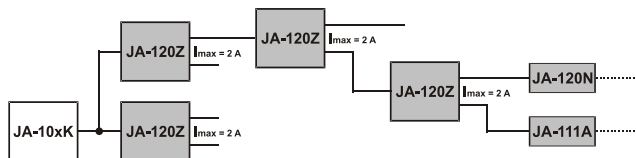

Figure 1: 1 – Boosting the BUS output current for up to 2 A by each JA-120Z unit
- Providing sufficient current for connected devices when the control panel output current is not enough, see Figure 1.
Providing sufficient current (Figure 1)